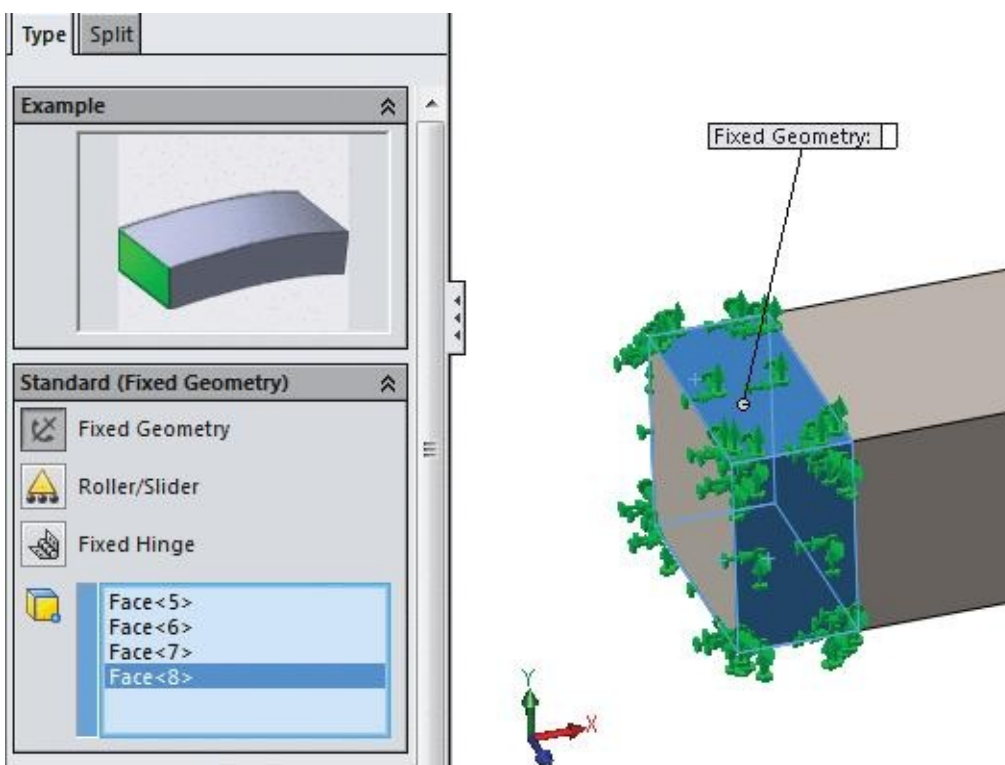

Figure-17. Splitted faces selected for fixing
- Click on the faces that you want to fix and remove unwanted faces by right-clicking and then selecting the **Delete** option from the shortcut menu; refer to Figure-17.